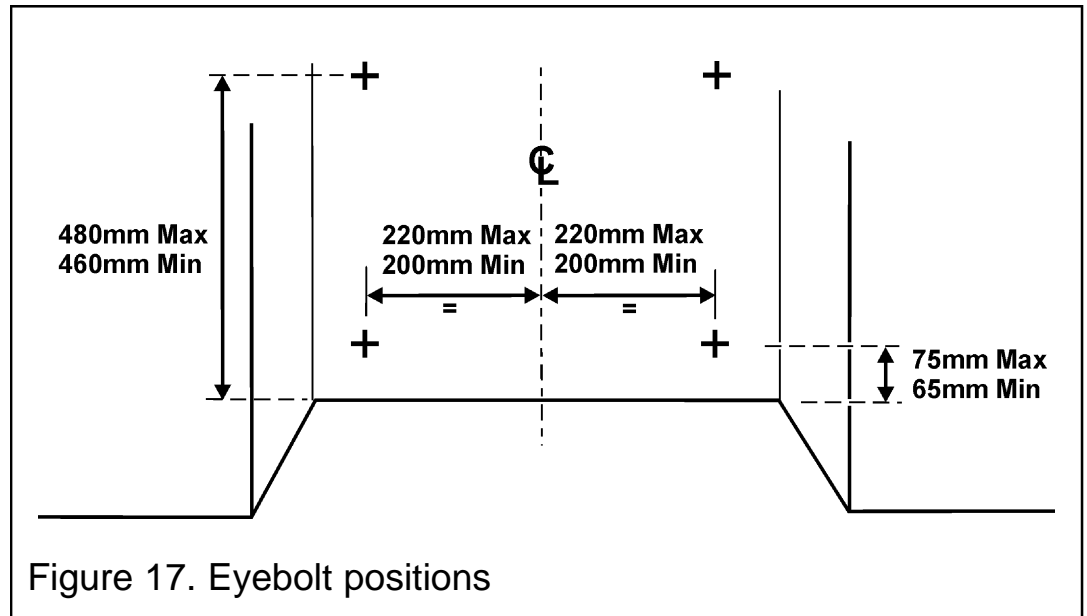

Figure 17. Eyebolt positions
2. Drill four holes in the rear wall of the fireplace for the fibre plugs. The holes should be drilled within the range of positions shown in figure 17 using a suitably sized masonry drill for the fibre plugs supplied. The holes should be equidistant each side